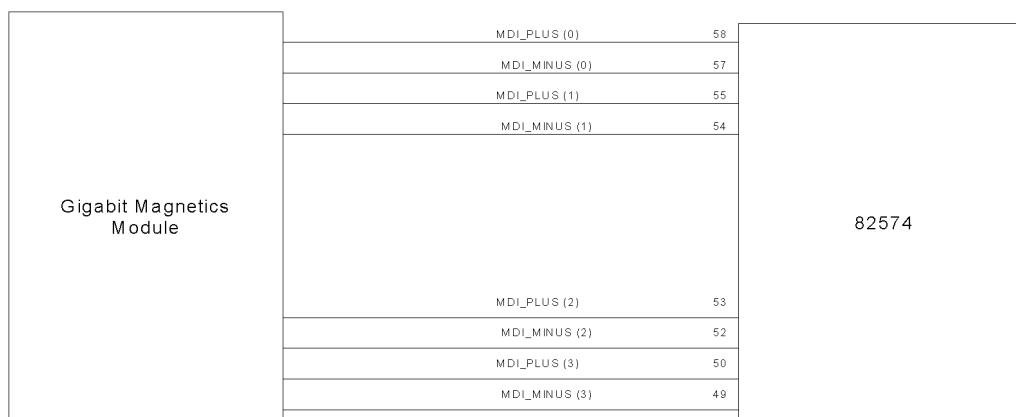
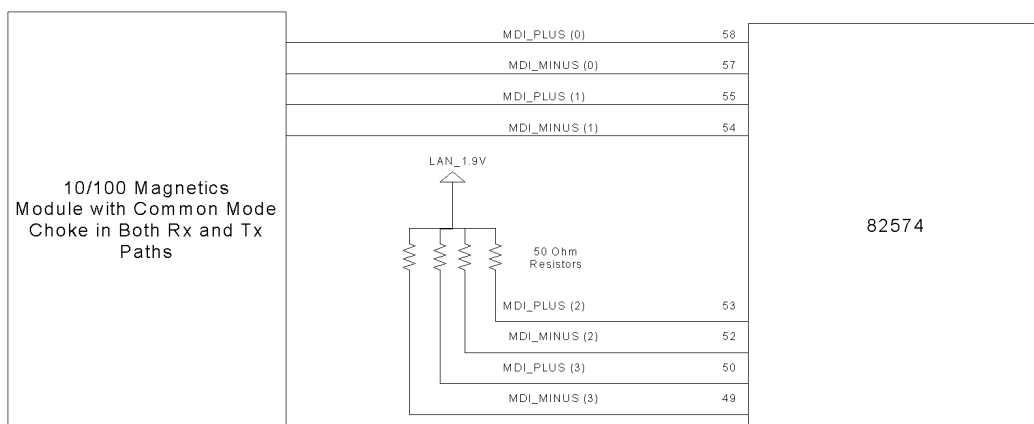

Figure 68. 82574L Gigabit Magnetics Module Connections
Figure 69. 82574L 10/100 Mb/s Magnetics Module Connections (With CMC)
2. Connect MDI pair 0 (pins 57 and 58) and MDI pair 1 (pins 54 and 55) to your magnetics. MDI pair 2 (pins 52 and 53) and MDI pair 3 (pins 49 and 50) can each be pulled up to 1.9 V dc through a 50 Ω resistor or connected to the magnetics as a gigabit device if it is desired at a later time to enable gigabit by altering bit 14 of the LED 1 Configuration Defaults/PHY Configuration; word 0x1C (Giga Disable). See Figure 68 and Figure 69 for details.